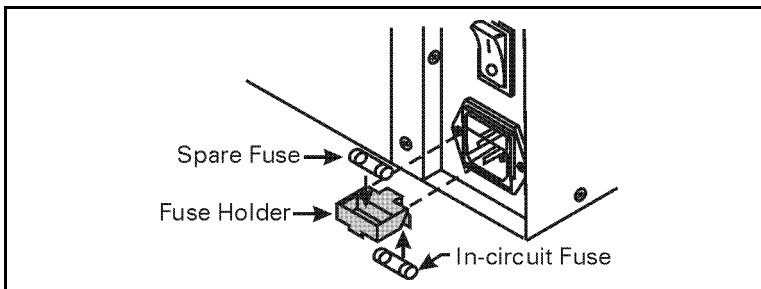

Figure 31
3. Remove the faulty fuse and install a new fuse of the correct type. Refer to Figure 31. The fuse that goes into the printer first is the one that is “in-circuit.” If you use the spare fuse, be sure to order a replacement fuse (fuses can be ordered from your Zebra distributor).